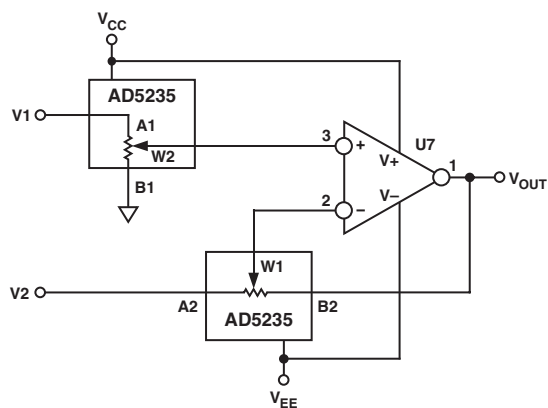

Figure 7.
d. As an alternative to circuits in which a high degree of precision is not required, digital potentiometers can be used as shown in Figure 7. AD5235, a nonvolatile memory, dual 1024 position digital potentiometer, is used along with AD8628 to form a difference amplifier with a gain of 15 ($G = 15$). By using a potentiometer, programming capability is achieved, allowing gain setting and trimming in one step. Another benefit of this circuit is that the dual resistors (AD5235) have a tempco of 50 ppm, which makes the matching on the resistor ratios easier. Other digital potentiometers can be selected based on the accuracy and tolerance expected out of the circuit.